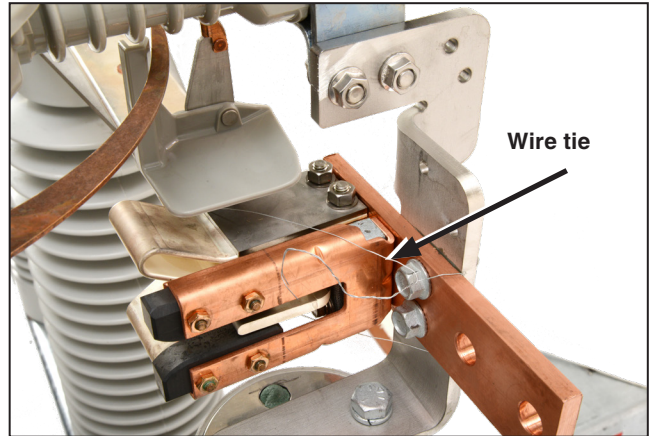

Figure 6. Tying switch blade to main contacts.
**STEP 4.** To minimize time-consuming final adjustments, make sure that the switch is fully closed. Tie the switch blades to their stationary main contact assemblies. See Figure 6.